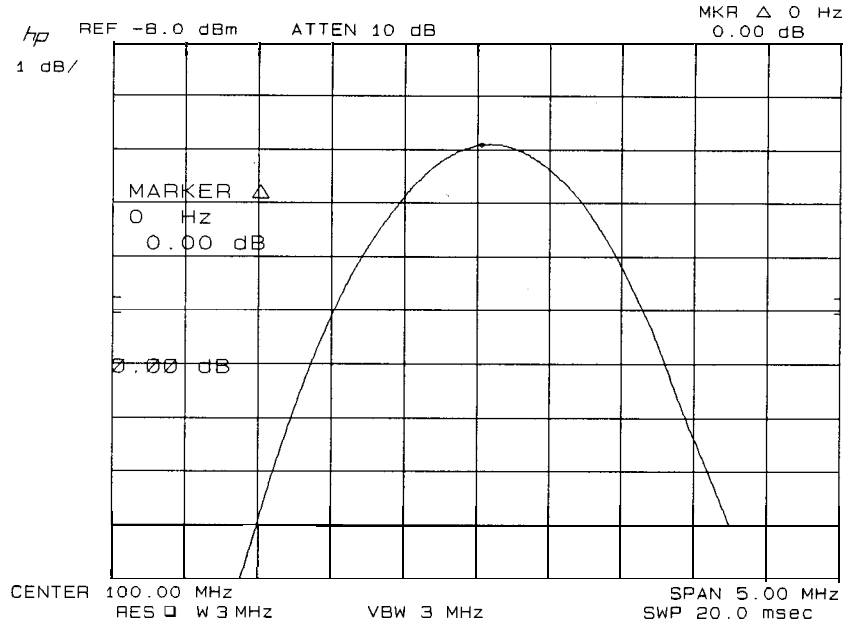

Figure 4-6. Bandwidth Switching Uncertainty Measurement
5. Key in settings according to Table 4-6. Press MARKER **PEAK SEARCH** at each setting, then read the amplitude deviation from the MARKER La] readout at the upper right of the display (see Figure 4-6). The allowable deviation for each resolution bandwidth setting is shown in the table.